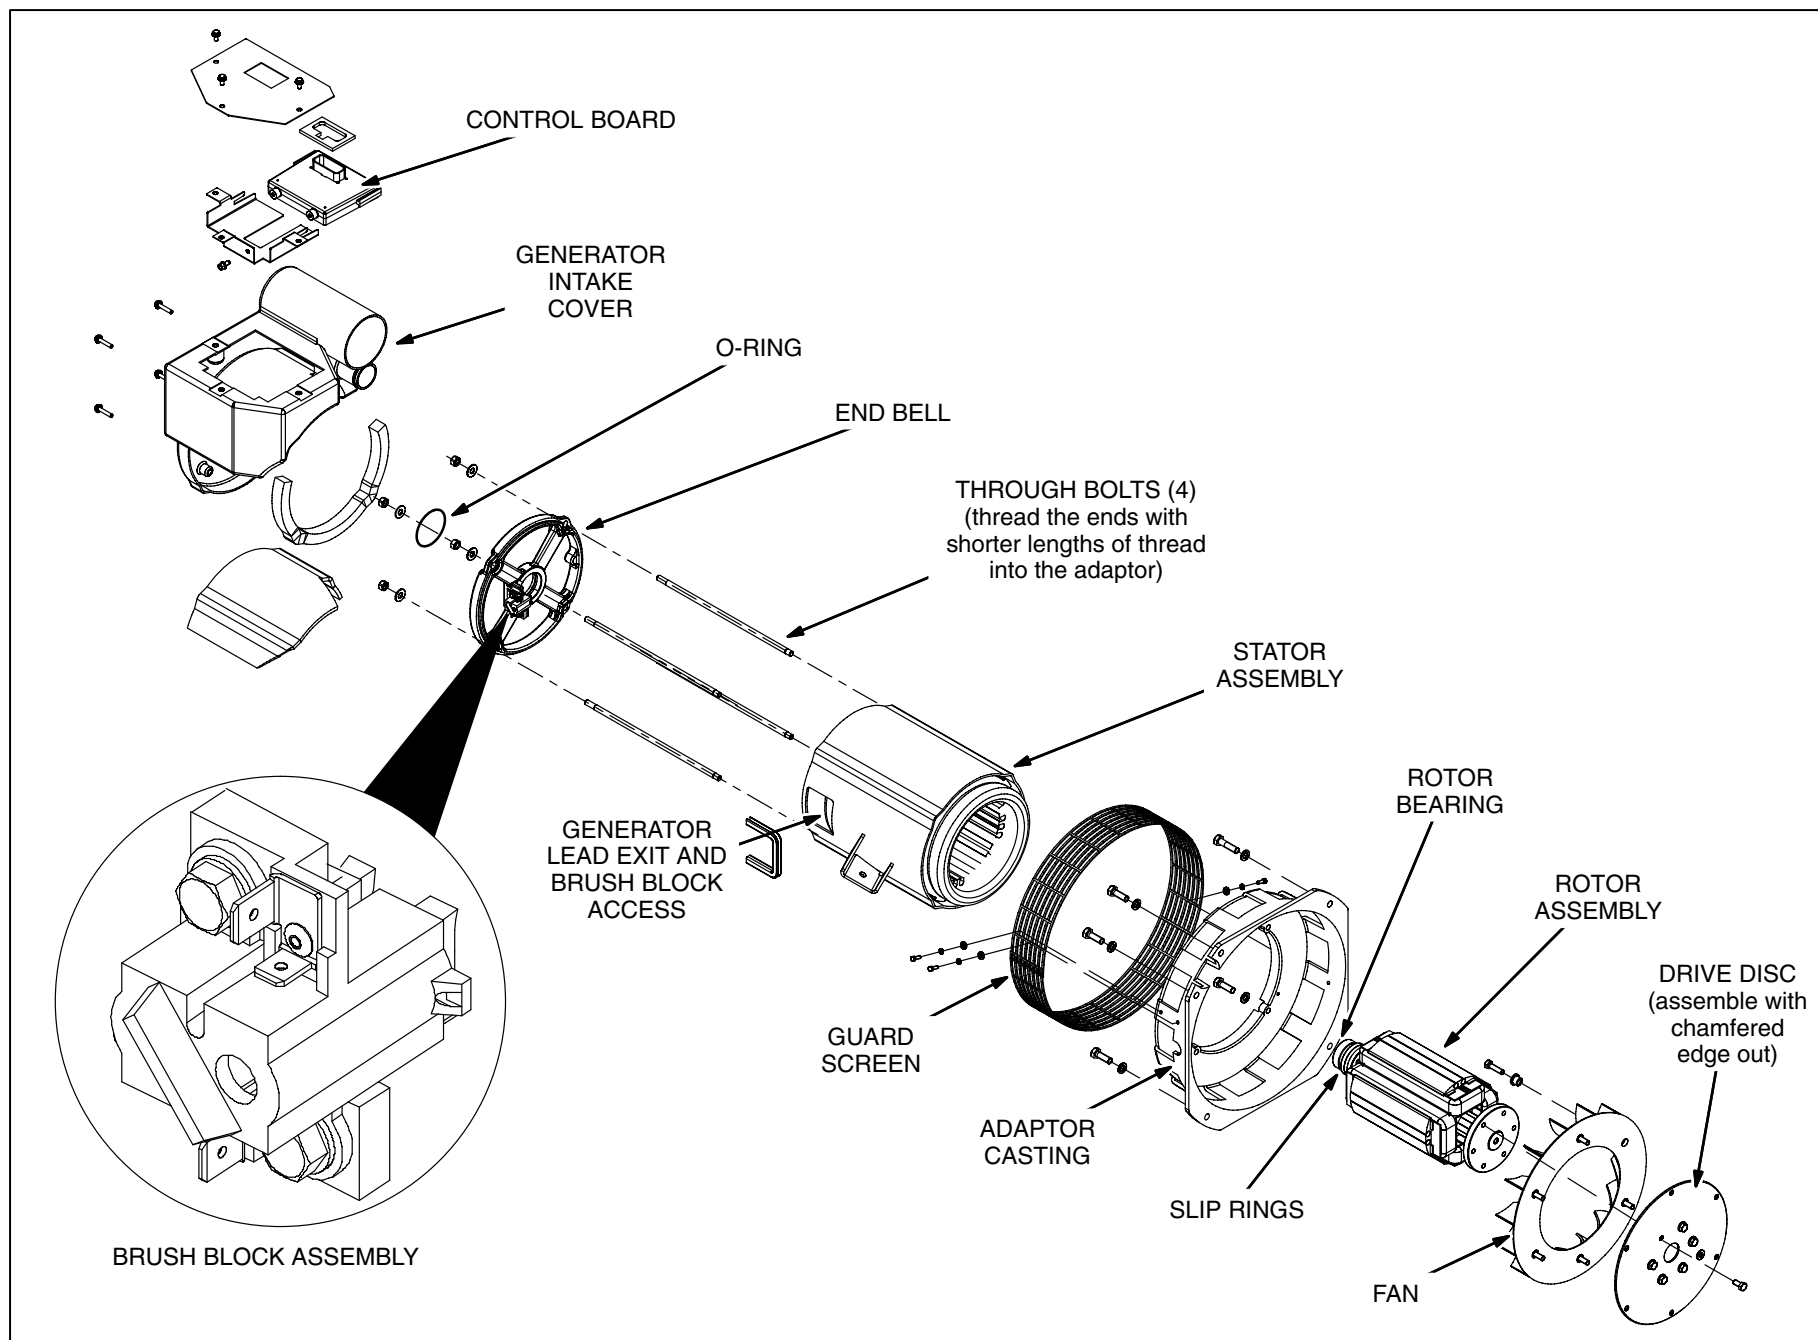

FIGURE 10-1. GENERATOR (BEGINNING SPEC C)
The engine-generator assembly and wiring harnesses should be removed as an assembly from the genset if it is necessary to remove either the engine (Figure 9-1) or the generator (Figure 10-1 or 10-2). To do so:
1. Remove the air inlet assembly (Figure 10-1 or 10-2).